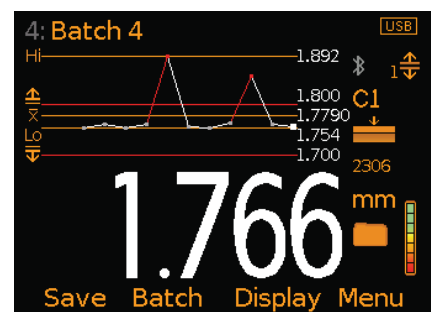

Figure 8: Run Chart & Readings
- **Run Chart - Model T (Figure 8)**; A line trend graph of the last 20 measurements which is updated automatically after each reading.